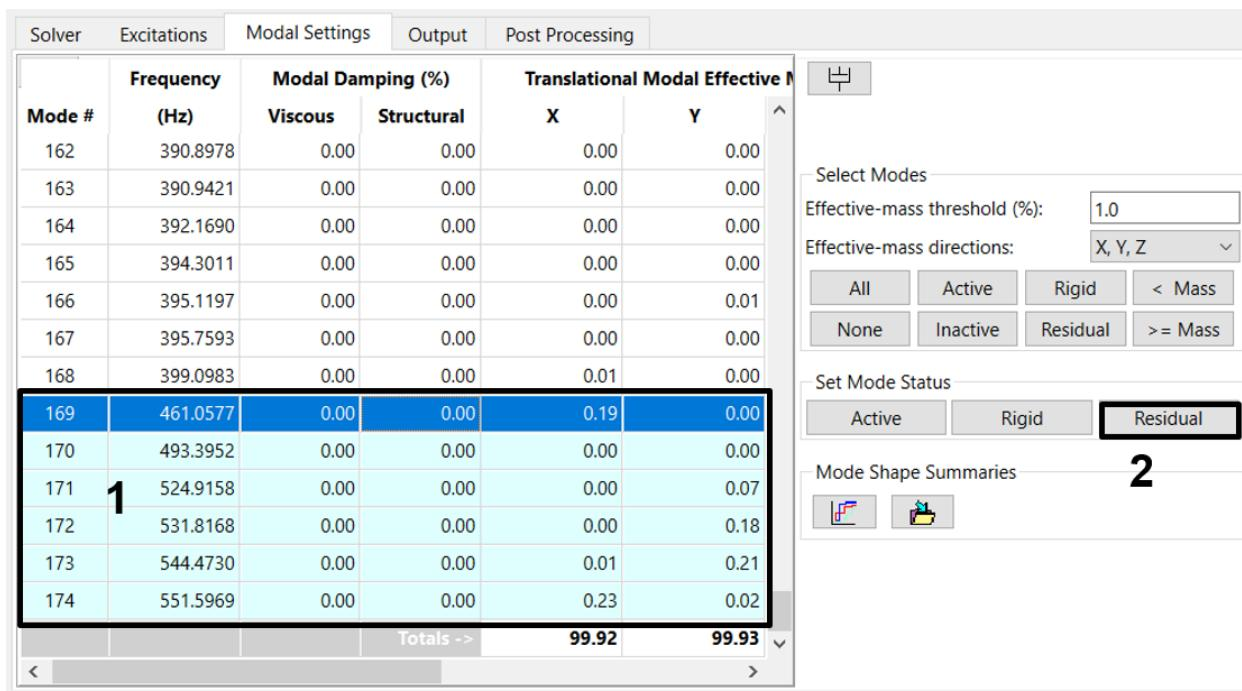

Figure 4-43. Select the modes above 400 Hz and set their status as residual vectors.
- 4. Since the Nastran solution requested residual vectors, make sure the modes above 400 Hz are marked appropriately. From the *Modal Settings* tab (Figure 4-43), select the modes above 400 Hz and then click on the **Residual** button. These modes will change to have a light-blue background, indicating that they are marked as residual vectors.